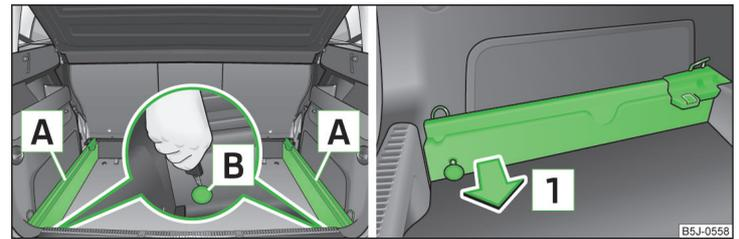

Fig. 70 Boot: Slacken check points/remove carrier rails
- Undo the securing points **B** » Fig. 70 on the carrier rails using the vehicle key or a flat screwdriver.
- Press the securing point **B** » Fig. 70 on each carrier rail to the stop.